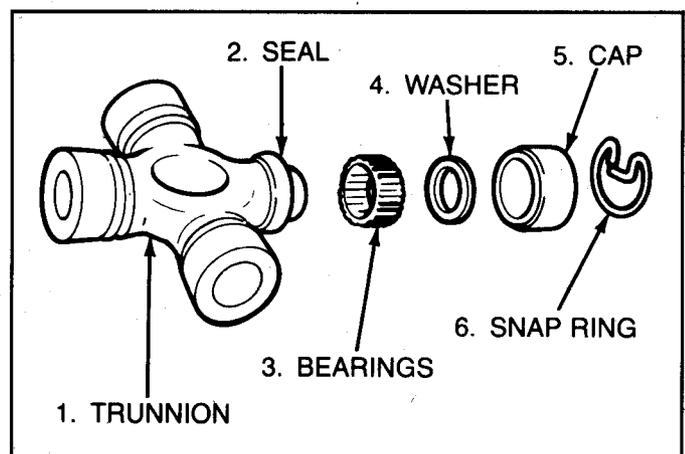

Figure 4-2 — Universal Joint-Exploded View
The simple universal joint is basically two Y-shaped yokes connected by a cross member called a spider. The spider is shaped like an "X", and arms that extend from it are called trunnions. (See Figure 4-2.) The spider allows the two yoke shafts to operate at an angle to each other.
Generally, the propeller shaft and universal joints require little maintenance. Periodic inspection is recommended, however, for proper propeller shaft balance and universal joint lubrication. If area around caps appears to be excessively dry, it may indicate a need for bearing relubrication or universal joint replacement. (See Figure 4-2.) A failing universal joint often squeaks on start-up or "klunks" with direction change.
- U-joint has a missing needle bearing. This situation usually creates a "snapping" noise under load as the needles straighten under load. See Figure 4-2 in this section of the manual.